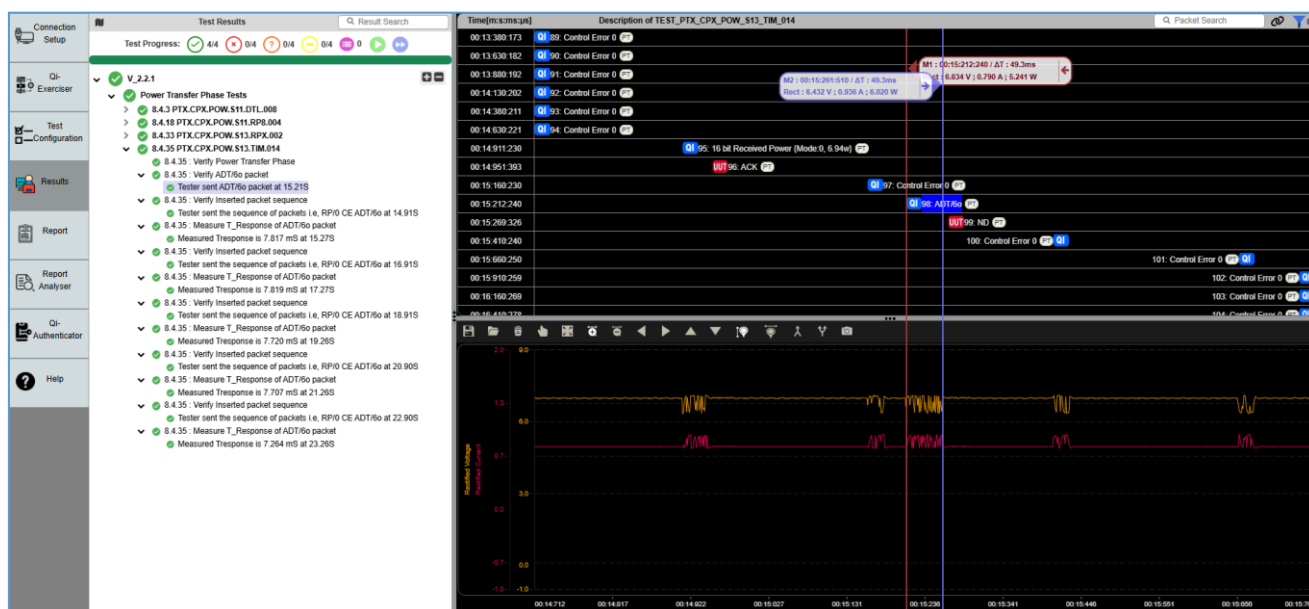

FIGURE 8.67: VERIFY FAILURE PACKET
- To verify the exact failure packet, the user can just select the failure description and the GRL-C3 application will automatically map the respective packet as shown in the example in Figure 8.67 below.